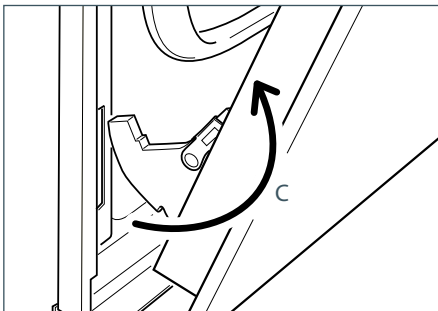

Fig.85d
- 4 Gently close the door until left and right hinge levers "A" are hooked to part "B" of the door (Fig. 85d).